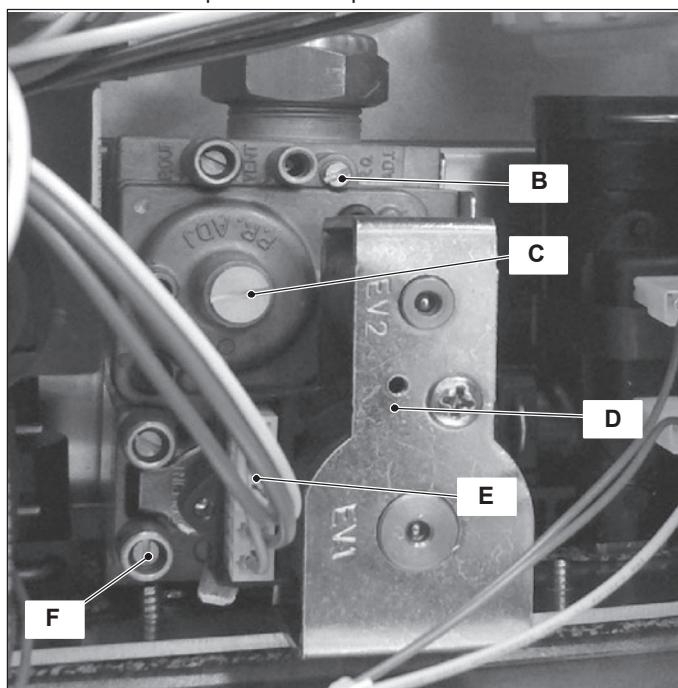
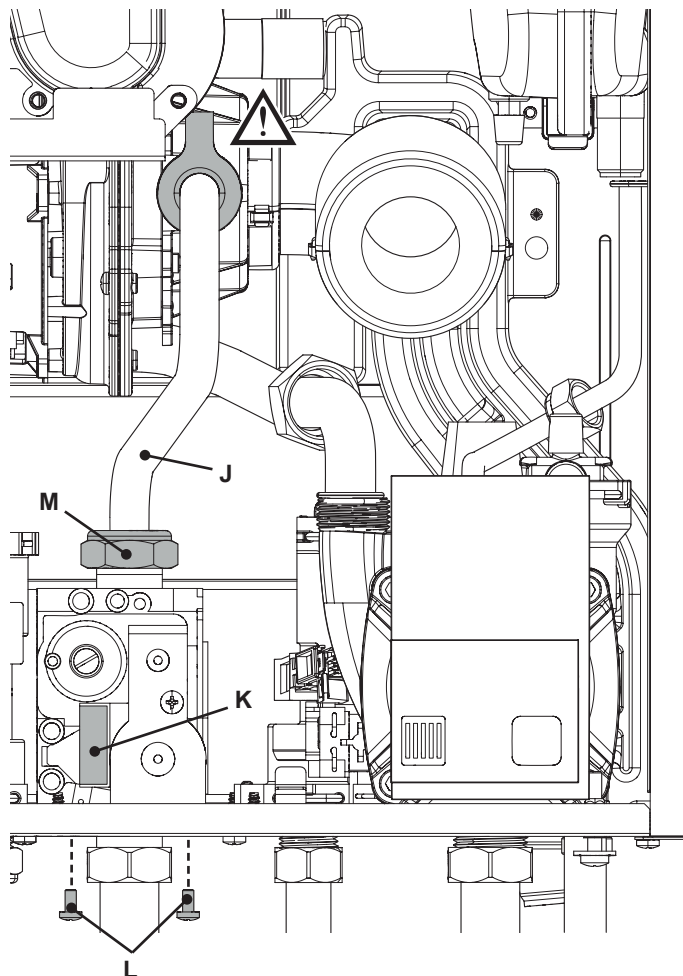

Figure 11.2
Figure 11.12
11.2 Description of the parts (Figure 11.2)
- 3 Loosen the internal screw on the Inlet Pressure Test Point "F" (Figure 11.2) of the Gas valve and connect a pressure gauge using a suitable hose.
- 10 Disconnect the pressure gauge and close the Inlet Pressure Test Point "F" (Figure 11.2).
To adjust the CO₂ % value remove the brass plug by unscrewing it and rotate the Allen key screw Ø 4 mm "C" (Figure 11.2) (by rotating it clockwise the CO₂ % increases).
To adjust the CO₂ % value rotate screw "B" (Figure 11.2) (by rotating it clockwise the CO₂ % decreases).
27 After adjustment fit the protective brass plug "C" (Figure 11.2).
- 2 Disconnect the electrical connector "E" (Figure 11.2).
- 2 Disconnect the connector "K" (Figure 11.12), see also connector "E" (Figure 11.2).
- 4 Unscrew the connector "M" (Figure 11.12) and remove the pipe "J".
- 5 Unscrew the screws "L" and remove the valve (Figure 11.12).